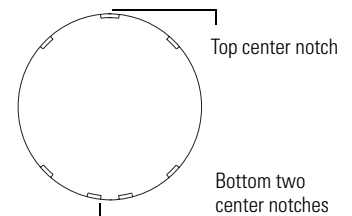

Figure 6
- There are seven "notches" cut into the stippled side of the lens. Position the lens so that the cluster of three notches is on top. The center notch of the cluster coincides with the spring clip on the lens retaining ring. (**Figure 6**)